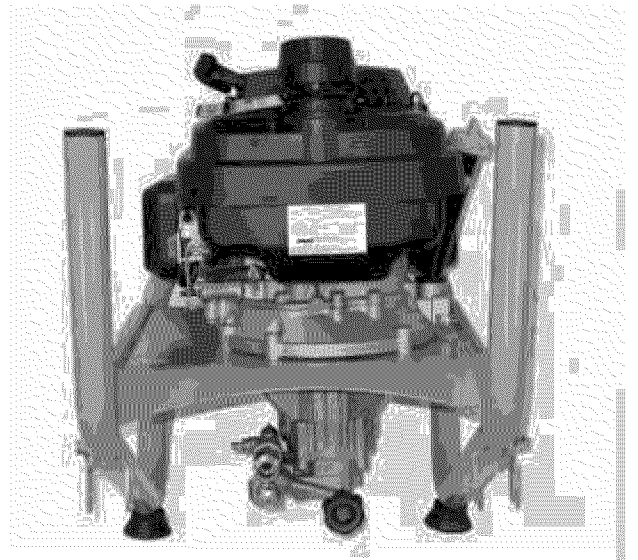

Figure 5 – Tip the Pressure Washer onto the Front
2. Place a piece of cardboard or other soft material to tip the pressure washer onto, to protect the frame paint and prevent the pressure washer from sliding. Tip the pressure washer onto the front as shown in *Figure 5*.